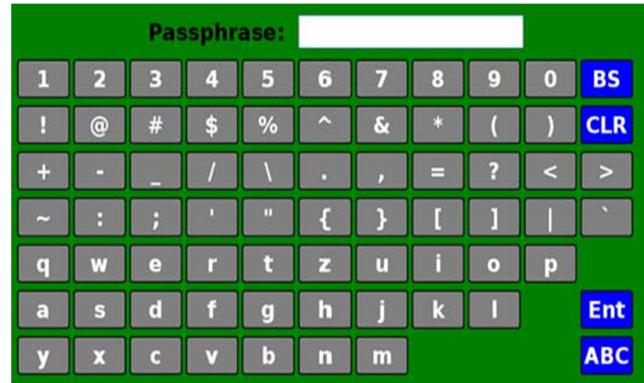

FIGURE 30
To enter the date, press the box next to the description, and a key pad will open (Figure 30). Press the clear (CLR) or the back space (BS) button to remove the existing date, then enter the new date and hit the enter (ENT) button to close the key pad.